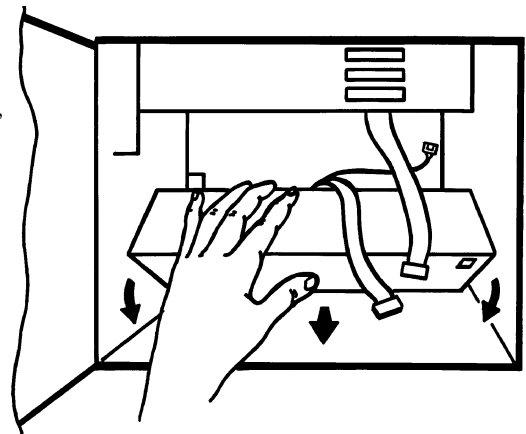

Figure 2.2.2e PSU removal
8. Rotate and lift out the power supply as shown in figure 2.2.2e, carefully avoiding damage to the battery pack connector.